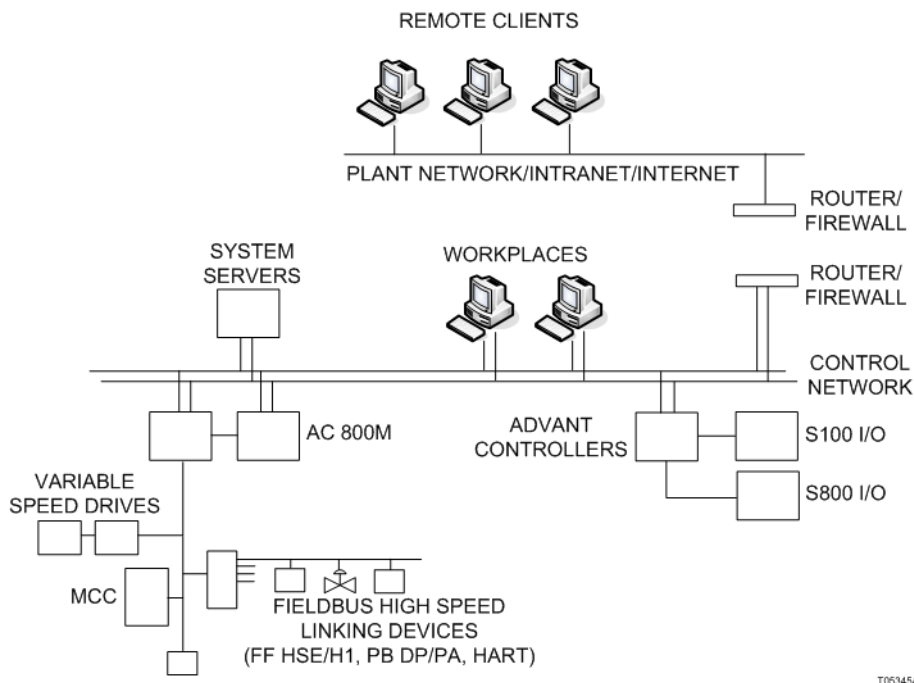

Figure 150. AC 800M, Advant Master, and MB 300 Control Network
**Figure 150** is an example of an AC 400 Control System connected to System 800xA.